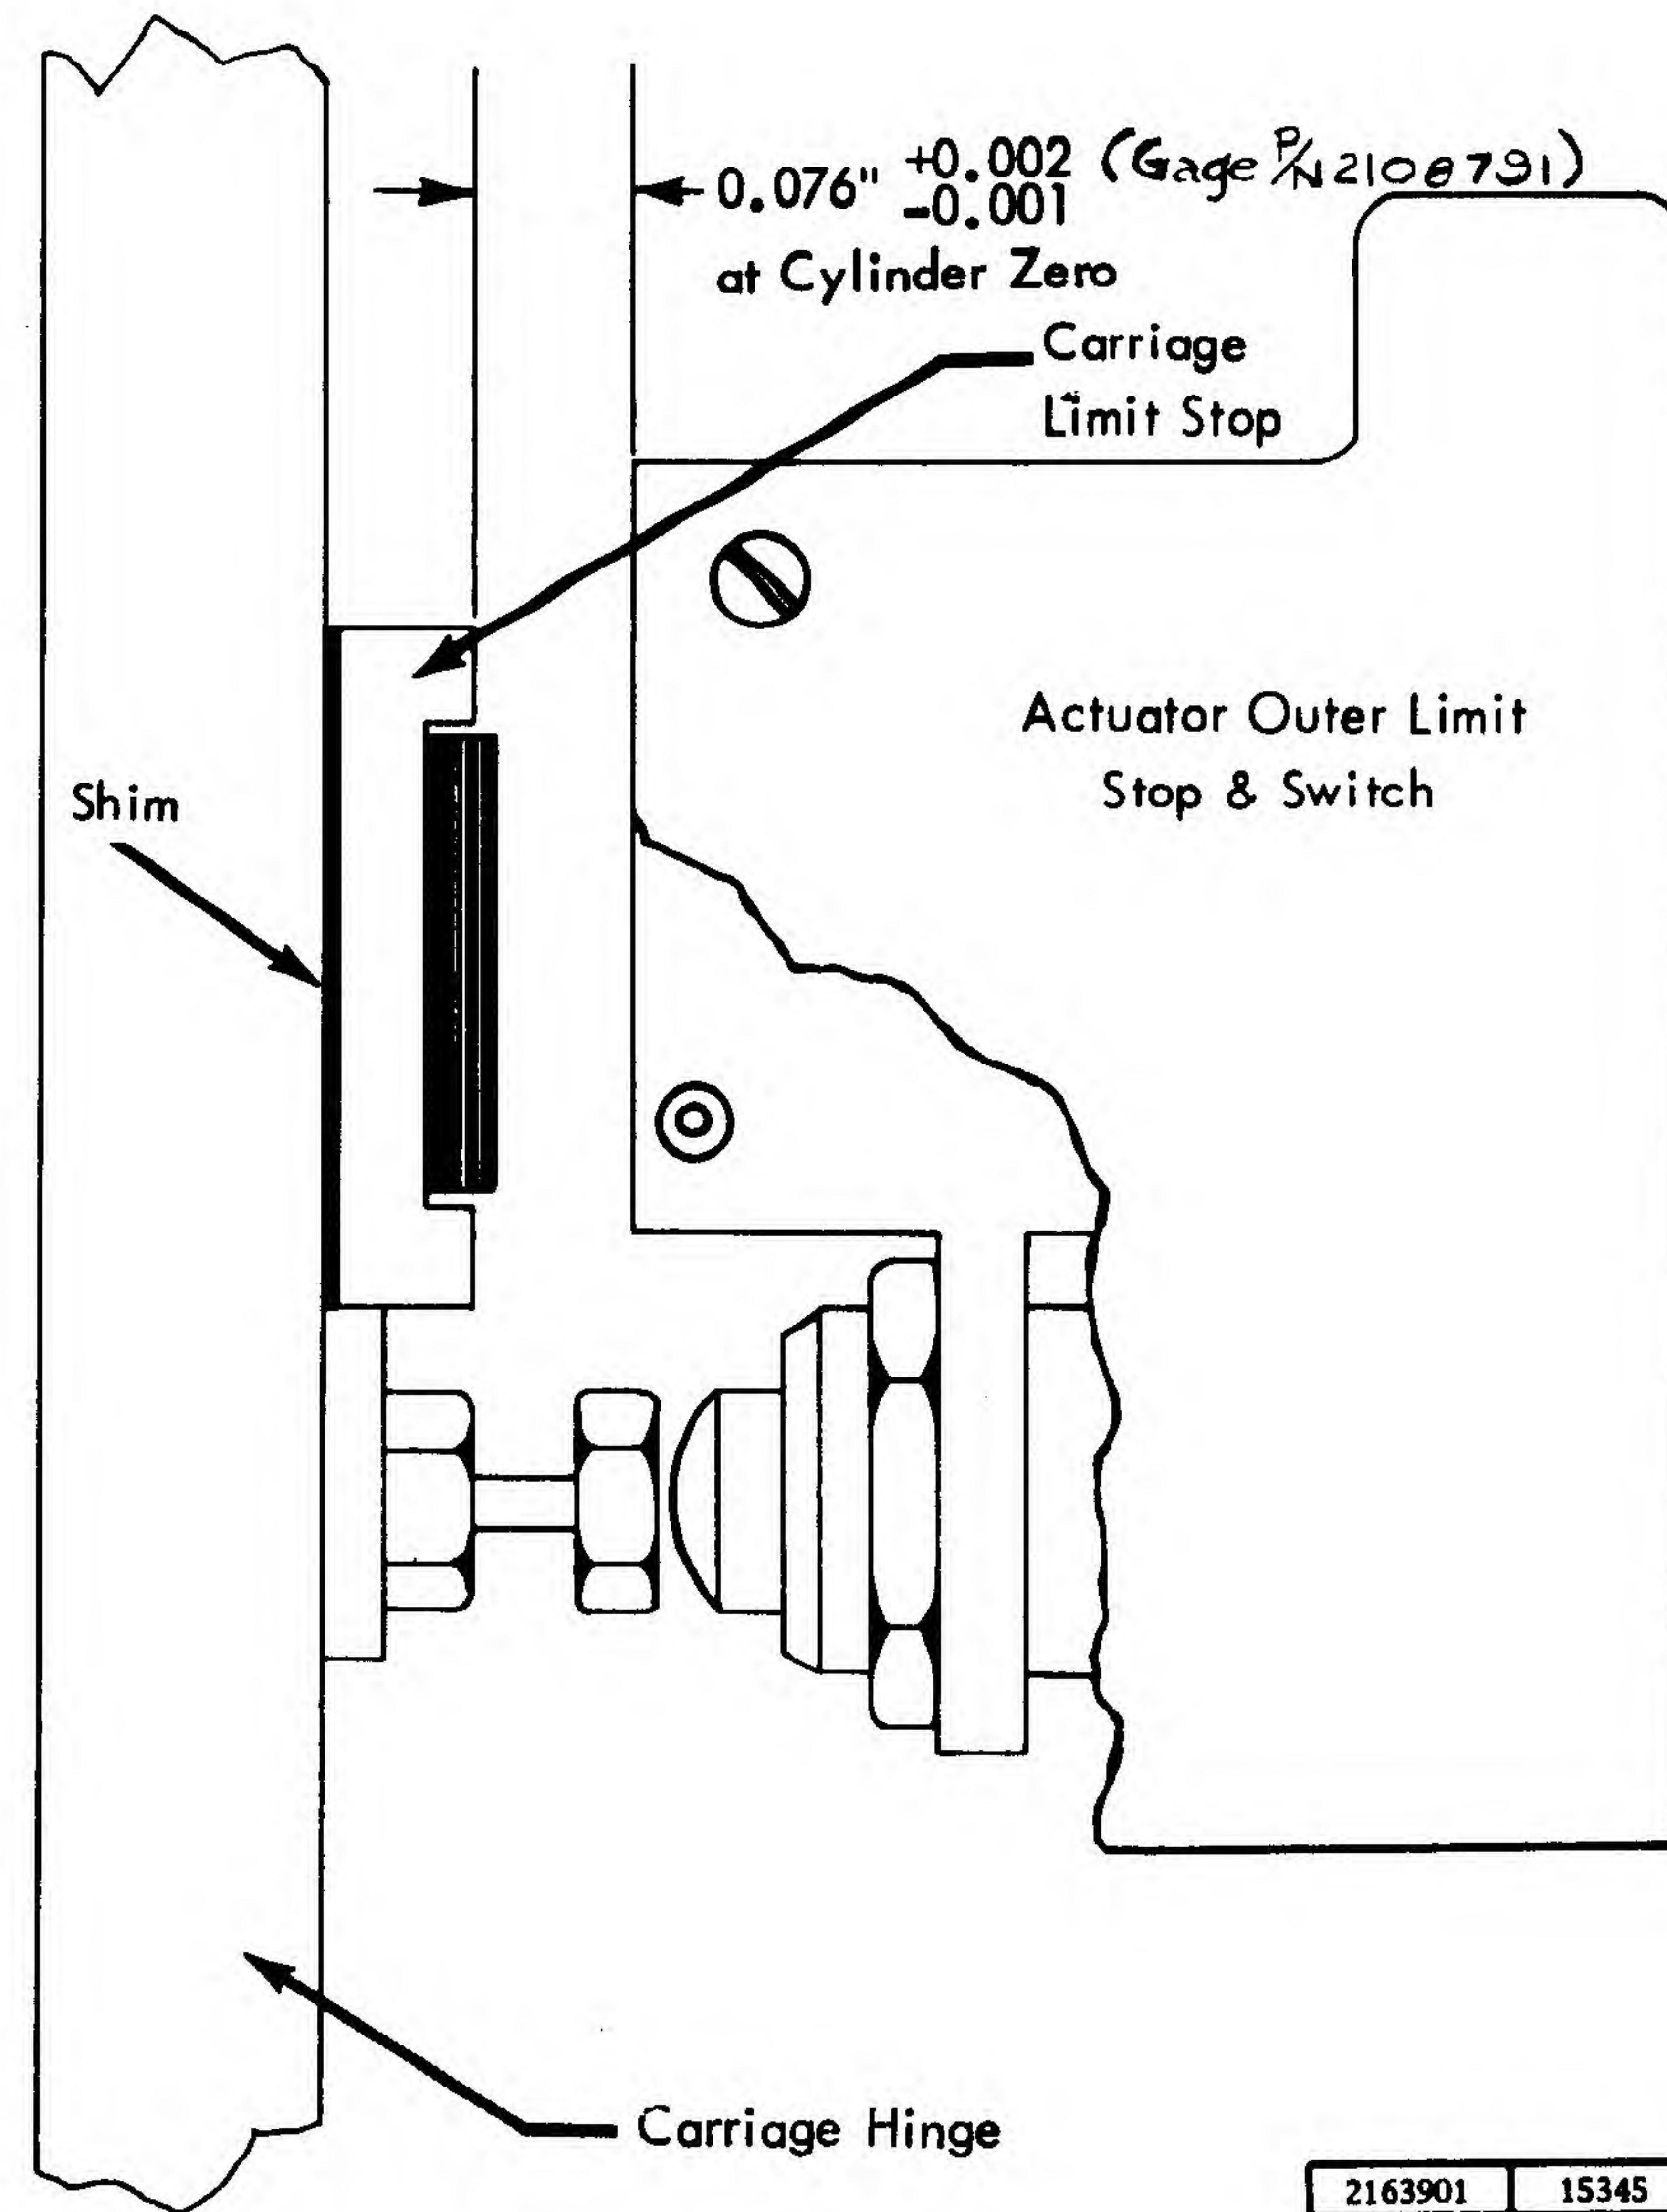

Figure 3-40 Carriage Outer Limit Stop and Switch Adjustment
Removal (Figure 3-40)
3. Place a 0.076" (P/N 2108791) shim between stops (Figure 3-40), and adjust differential screw as required.
4. Place a .076" shim between carriage limit stop and actuator outer limit stop (see Figure 3-40).